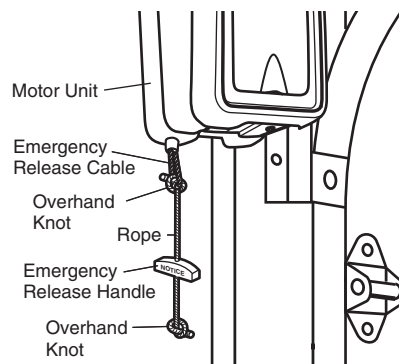

Figure 1
2. Ensure rail surface is clean and adhere lock template with bottom edge just above the highest point on the roller (Figure 1).